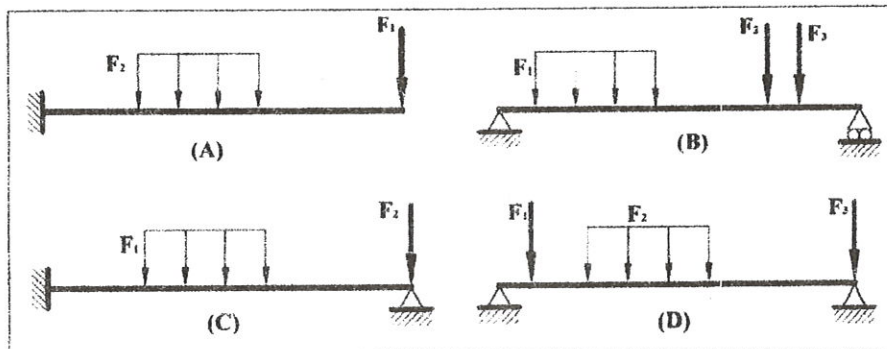

Figure 2
3. Identify the type of structures shown in Figure 2.
3. The structure shown in Figure 2 is classified as:
- Structures (A) and (B) : Static Determinate Structure (isostatic) ($r=3$ and $k=3$)
- Structures (C) and (D): Static Indeterminate Structures (Hyperstatic) (because $r = 5$ and $k = 3$ so $r > k$)